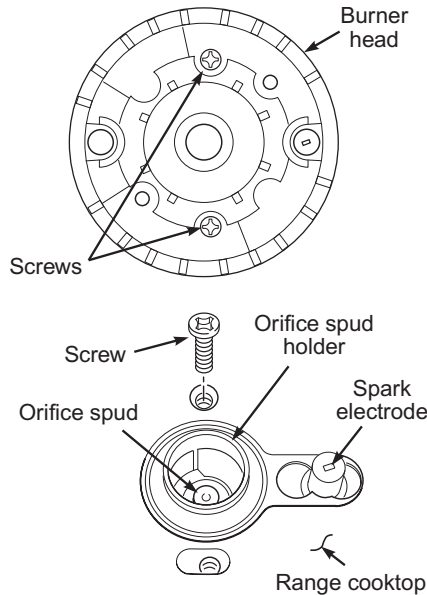

Figure 9
4. Surface burners: Remove burner caps. Use a Phillips or Quadrex screwdriver to remove the screws holding the burner head down. See Figure 9.